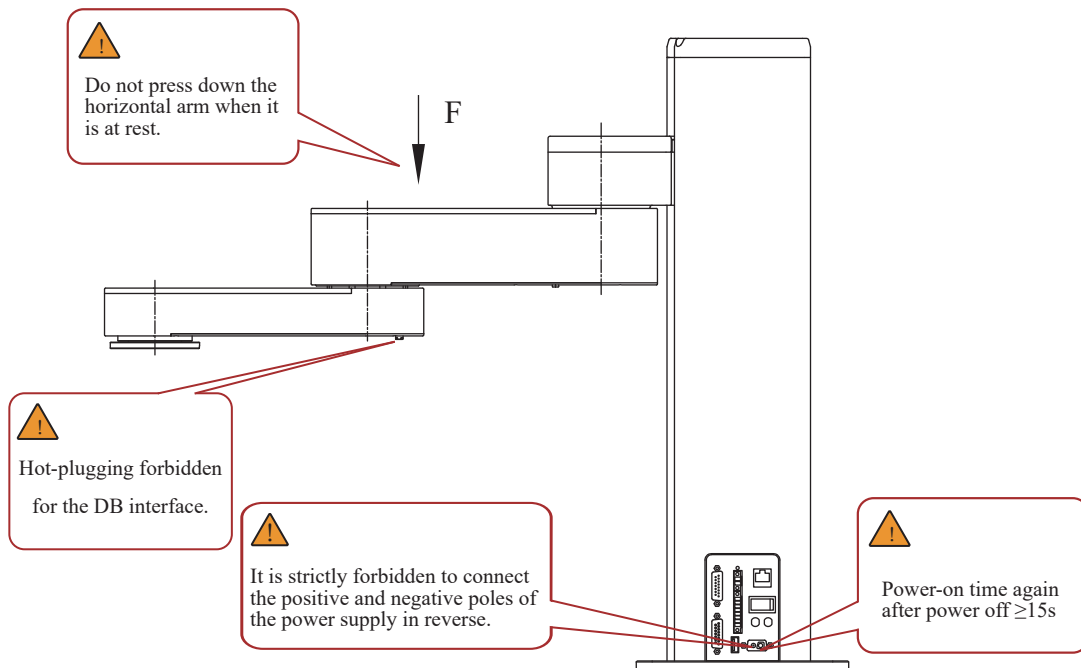

Figure 10
5. Power cable hot-plugging forbidden. Warning when the positive and negative poles of the power supply are reversed (as shown in Figure 10).
6. Do not press down the horizontal arm when the power is off (as shown in Figure 10).